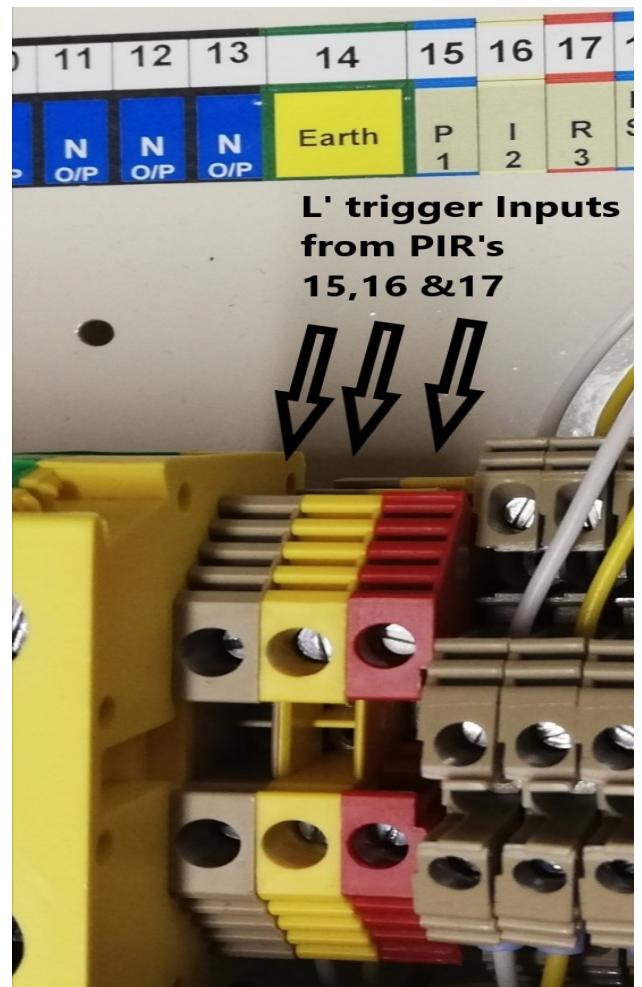

Fig 8
* Programmable Timers can also be connected to the controller via the terminal inputs 15 to 17 see fig 8.